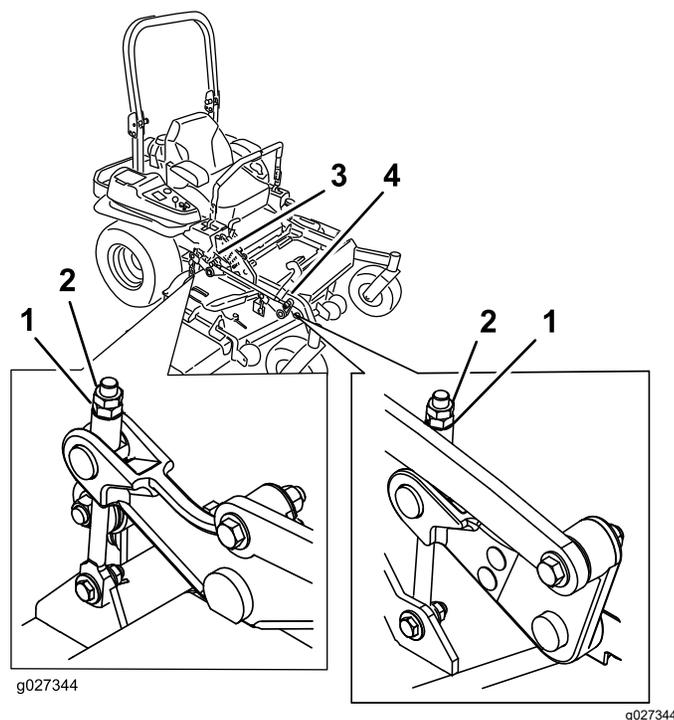

Figure 110
10. Fine-tune the adjustment nut on the front deck-lift assembly by turning it (Figure 110).
16. Fine tune the screw adjuster by turning it to get 8.3 mm (3-1/4 inches) height (Figure 110).